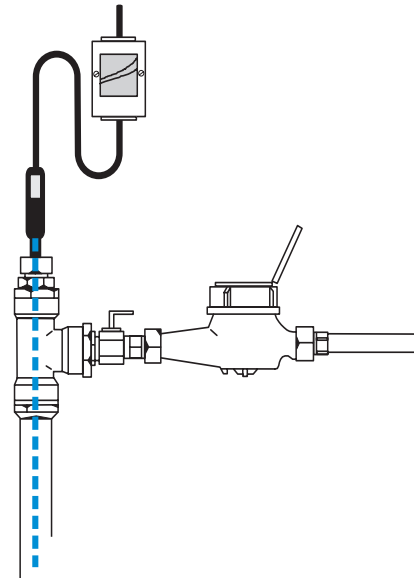
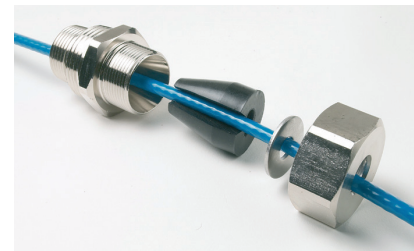

Fig. 10
Fig. 11
3. The cable is installed inside the pipe, see fig. 10. The Special Pipe fitting (3/4"+1", 10 bar @ 23 °C; included in DEVlaqua™ is required for heating cable connection to the pipe, see fig. 11.